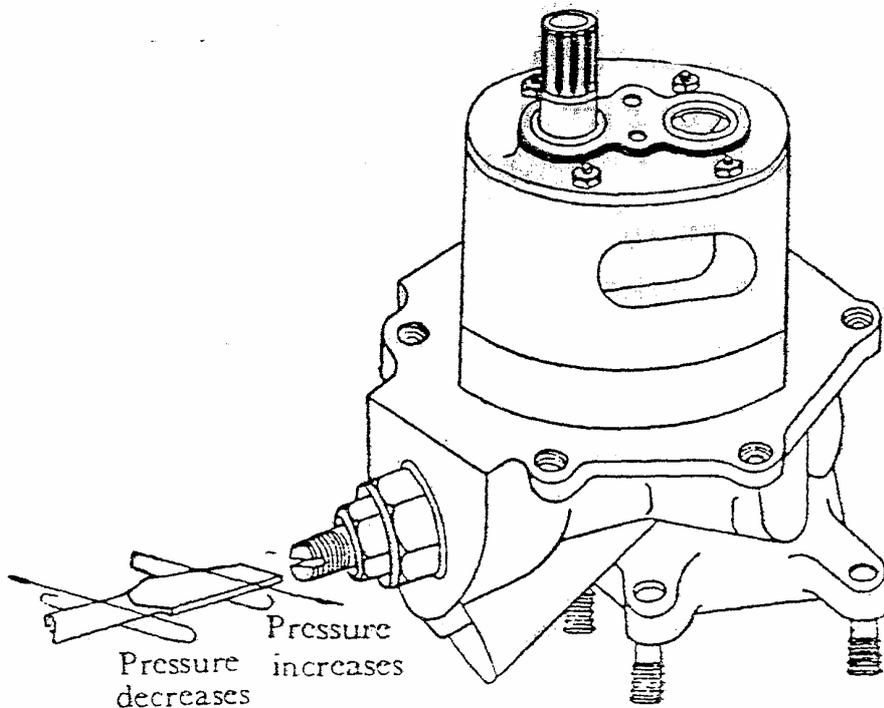

Fig. 6 Adjusting of oil pressure
a. When the oil pressure is abnormal, regulate it with an adjusting screw (fig. 6).